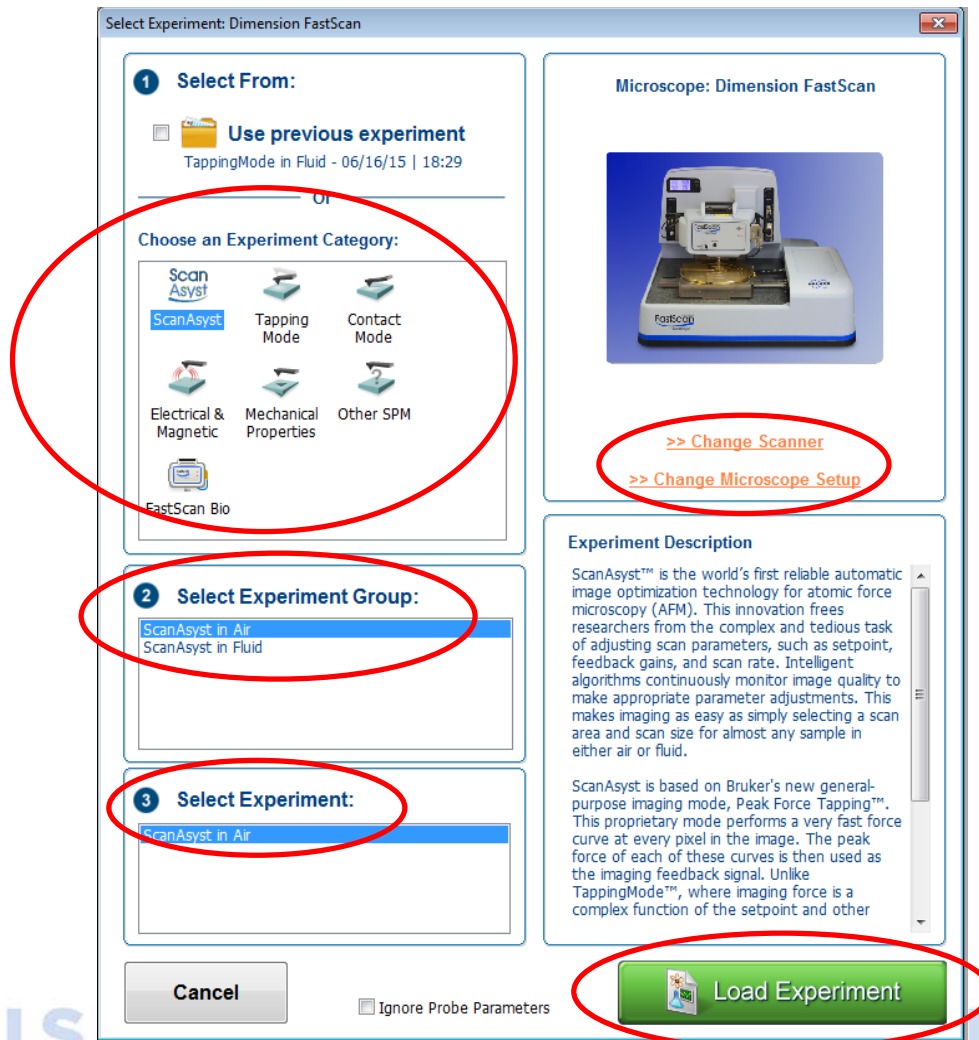

Figure 1. Experiment and microscope selection page.
- a) Check to make sure the microscope setup shown in the picture (e.g., FastScan or Icon head and associated optional modules) is the one desired. If not, click on the “Change Scanner” or “Change Microscope Setup” link as appropriate (Figure 1). Otherwise, proceed to Step 4).
- 4) Select the appropriate Experiment Category, Experiment Group, and Experiment (based on the AFM mode best suited to your sample and desired data), then click “Load Experiment” (Figure 1).